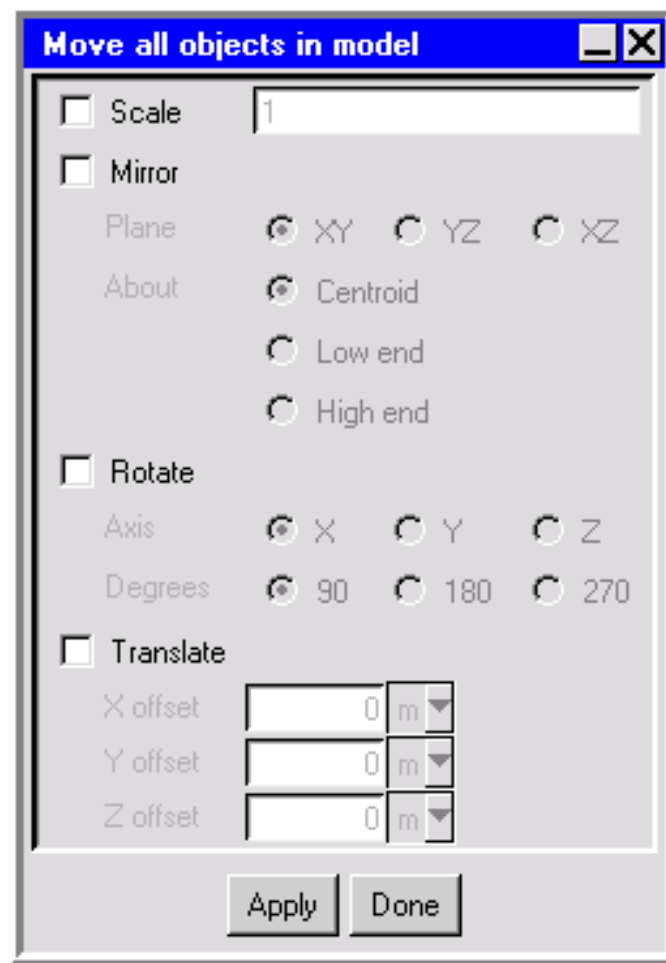

Figure 7.2.6: The Move all objects in model Panel
- Scale the room using the **Move all objects in model** panel (Figure 7.2.6). To open
- Move the room using the **Move all objects in model** panel (Figure 7.2.6). To open this panel, right-click on **Room** under the **Model** node in the **Model manager** window and select **Move object** from the pull-down menu. Alternatively, you can select the room and click on the  button in the **Object modification** toolbar.